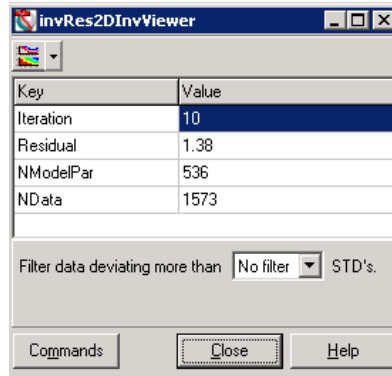

Figure 4.7 RES2DINV - Show inversion result.
After import a 2D inversion-node appears in the **Workspace Manager**. Right-click on the node to access the inversion result. This brings up the window seen in Figure 4.7.
- Select data points automatically using the filter-dialog on the main form (Figure 4.7). The selection is based on the standard deviation assigned to the data points. Thus, with a 5 % STD (1.05) assigned to the data points all data points deviating more than 5% from the observed data will be filtered setting the **Filter data deviating more than...** to 1.